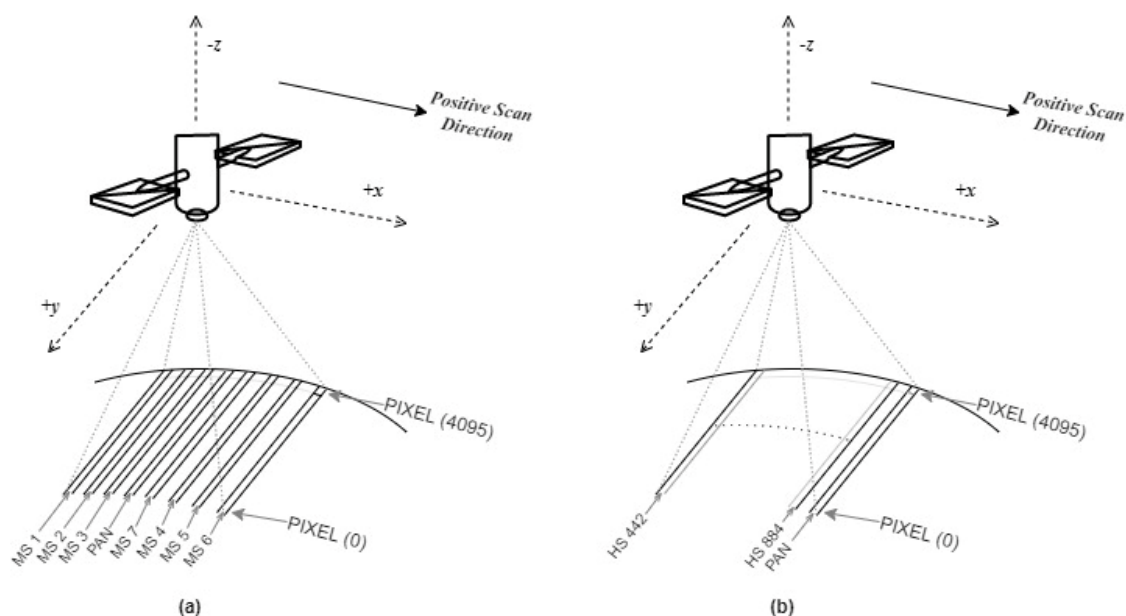

Figure 4-3: Imager Ground Projection for (a) MultiScape100 CIS, and (b) HyperScape100
Figure 4-3 shows the Imager ground projection for line scan Imagers including the position of the first pixel, PIXEL (0), clocked out from each band with respect to the Imager axis definition. Band 0 is reserved for the panchromatic (PAN) band. The multispectral (MS) bands are assigned in increasing wavelengths, e.g., the centre wavelength of MS 3 will be lower than that of MS 4. The scan direction determines which band is read out first: image lines from each enabled band is stored into the session as they scan over the target.